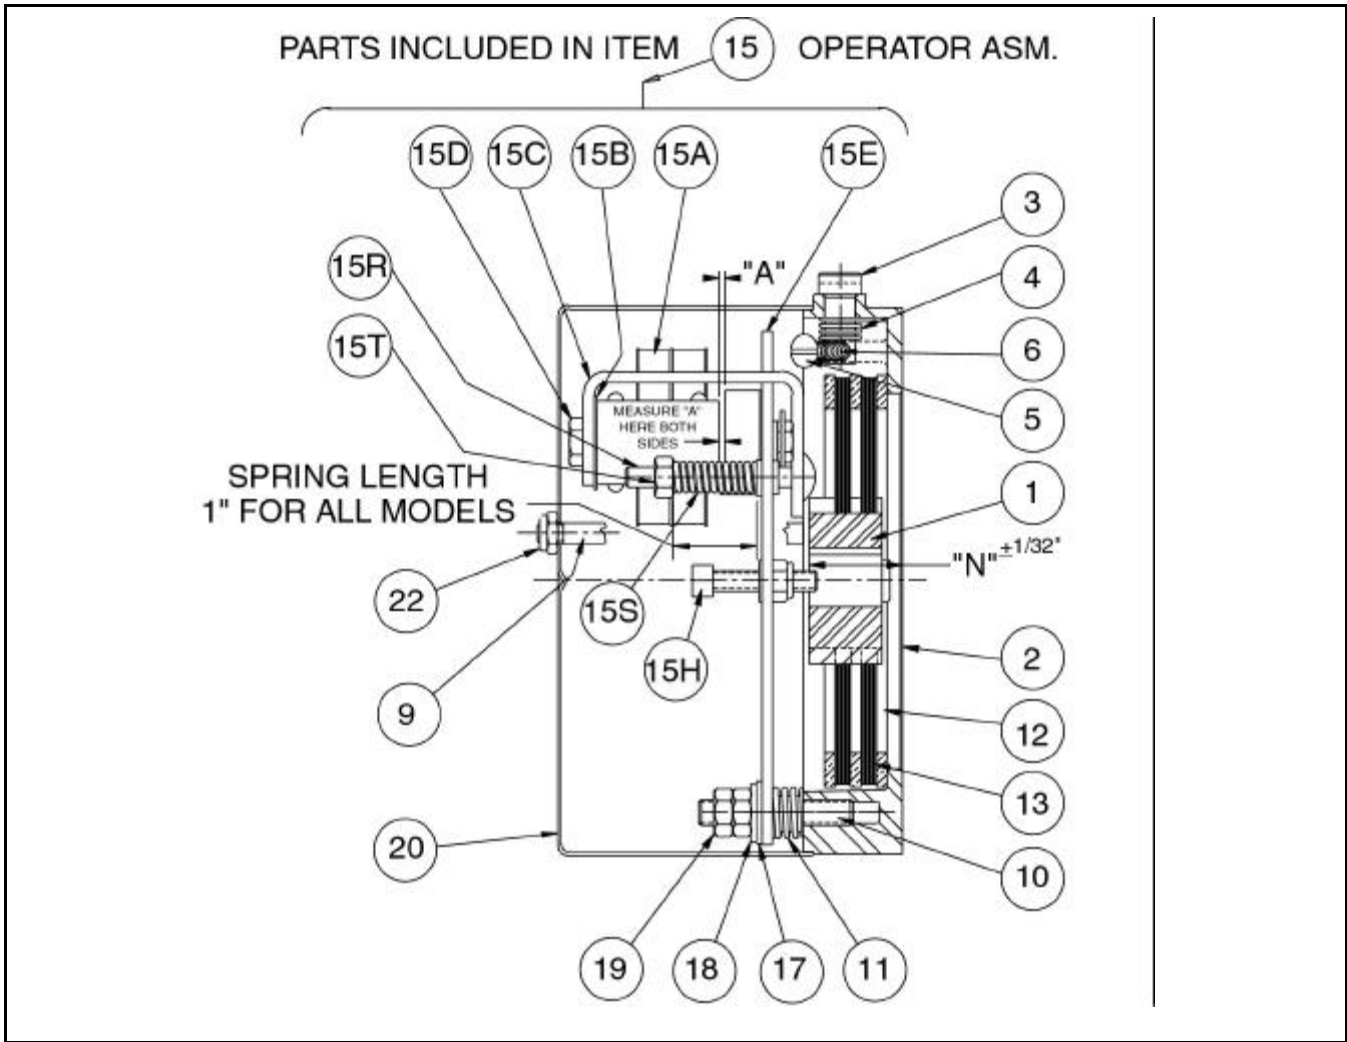
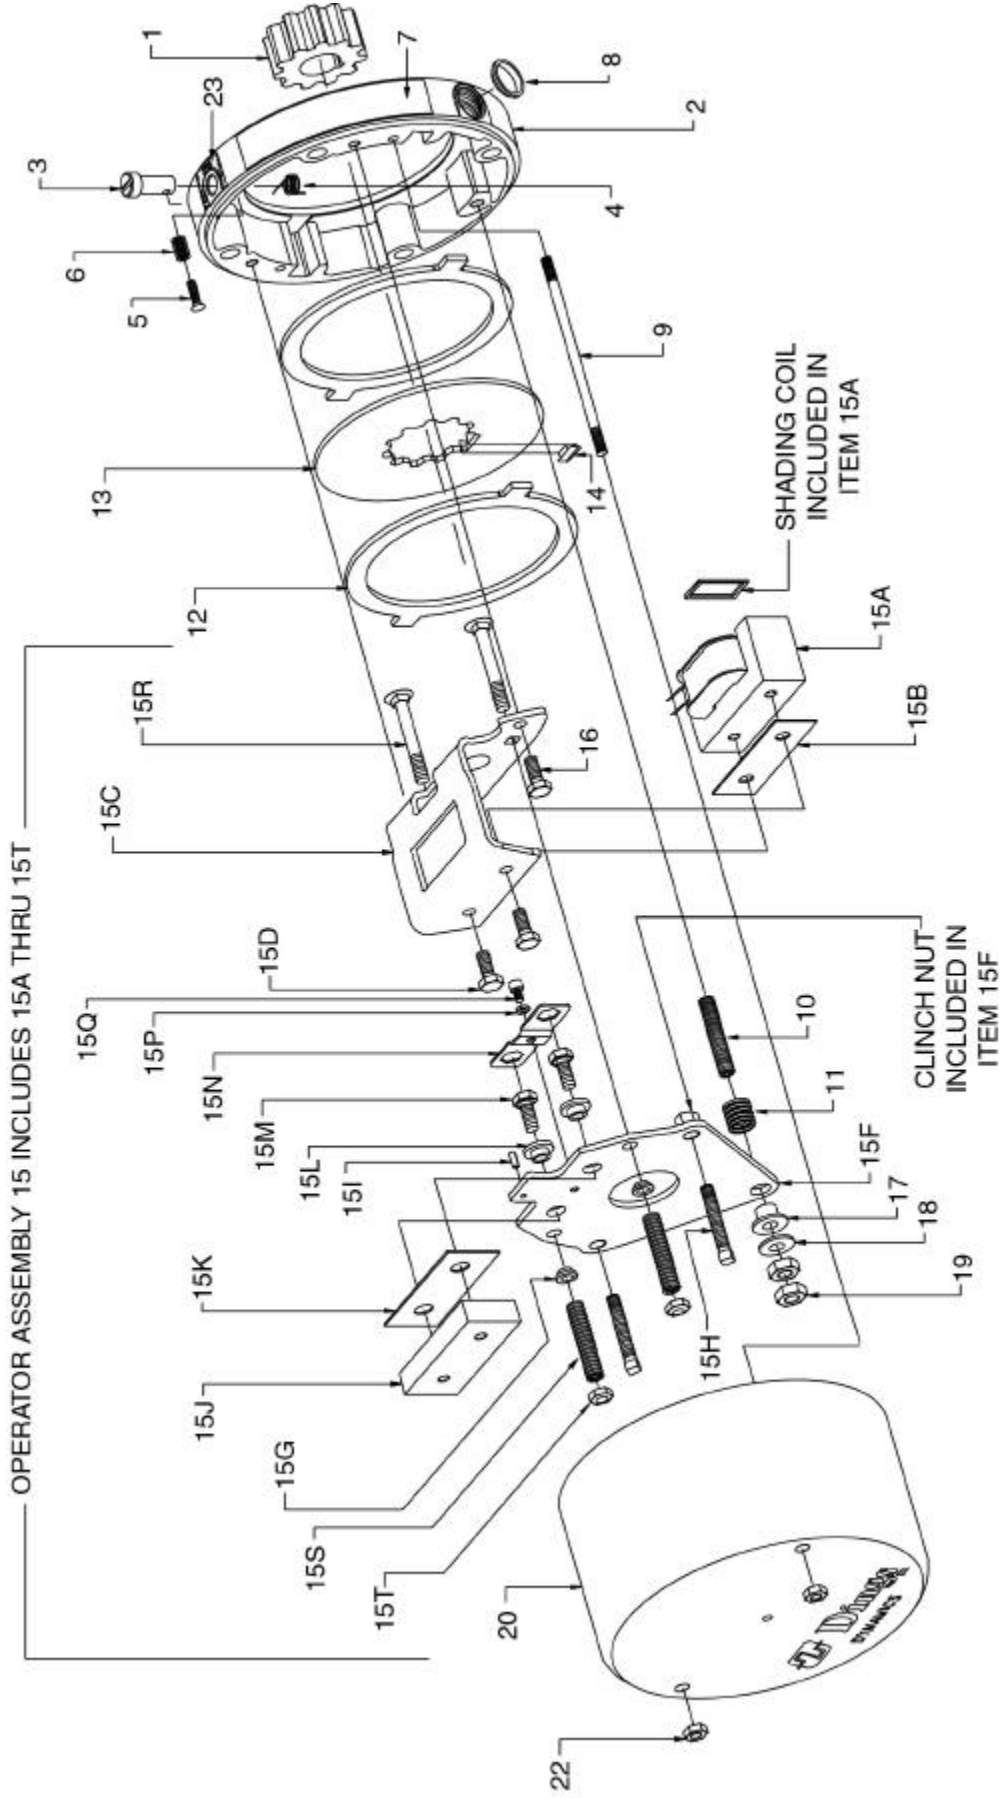

Figure 3
Figure 9
Numbers in parentheses refer to parts illustrated in Figs. 3, 5, 6 and 9.
Before air gap "A" reaches .100", adjustment is required. Any delay in adjusting the magnet air gap will result in eventual loss of torque. Refer to Fig. 3.
The magnetic disc brake is factory set for rated static torque. The brake can be adjusted to reduce torque which increases stopping time. Do not attempt to adjust brake for higher torque, as this will cause premature coil burnout. (Refer to Fig. 3)
Refer to Figs. 3 and 9. (Capscrew (16) is shown in Fig. 9 and not Fig. 3)
4. Reassemble to magnet bracket (15C) using items (15R), (15S) and (15T). Reassemble operator assembly to brake bracket. Set magnet air gap "A" and set torque springs (15S) to 1" as shown in Fig. 3.